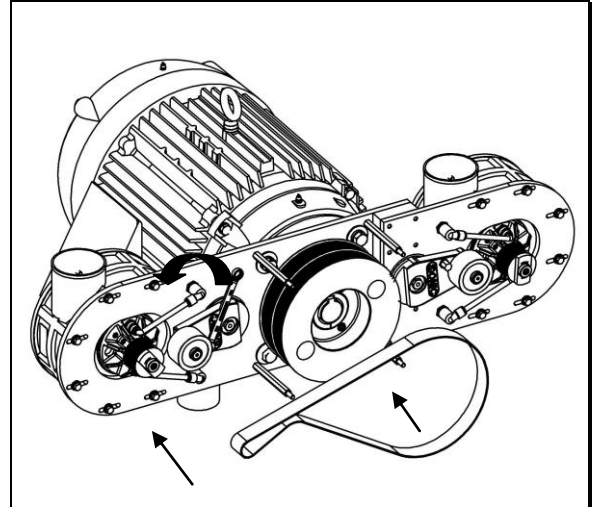

Figure 24 - Install New Belt
4. Using the 9/16 inch box-end wrench, rotate the belt tensioner counter clockwise (CCW). At the same time wrap the belt around the blower pulley, then along the right side of the idler pulley, and finally around the motor pulley. (See Figure 24)